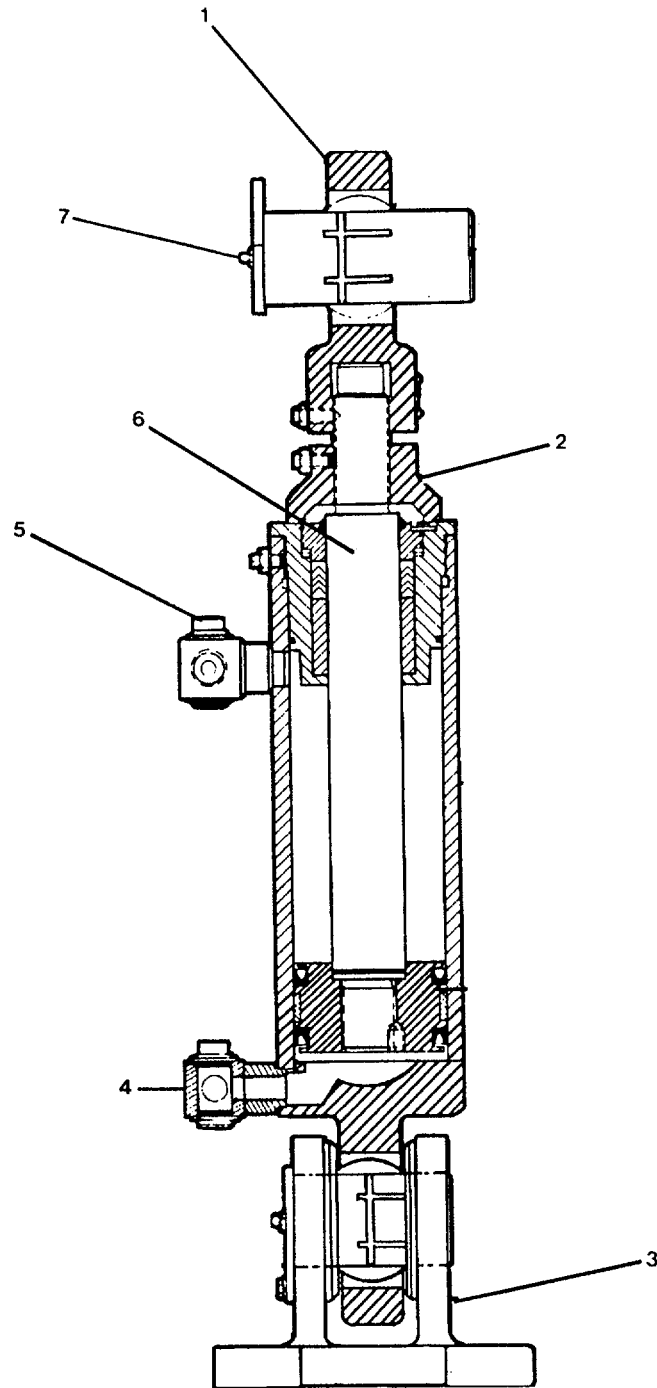

FIGURE 2-3. Hydraulic Cylinder Assembly.
## 2-12. Repair Hydraulic Cylinder Assembly. (FIGURE 2-3)
Repair of hydraulic cylinder assembly is replacement of lubrication fittings (FIGURE 2-3). Unscrew lubrication fitting (7) and replace with new one.